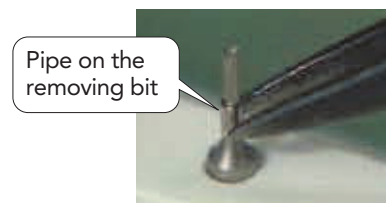

Fig.3
3) The pipe will remain on the removing bit or will remain in the side of the link from which the pin is pushed. (Fig.3)